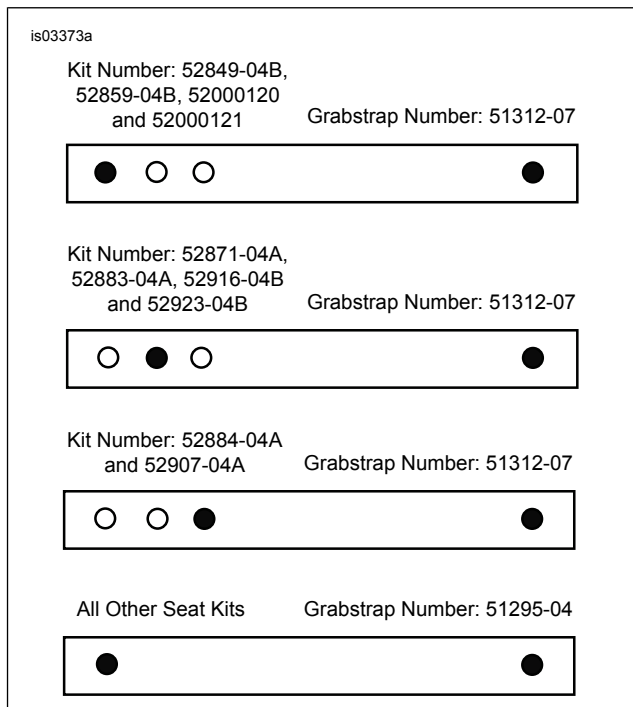
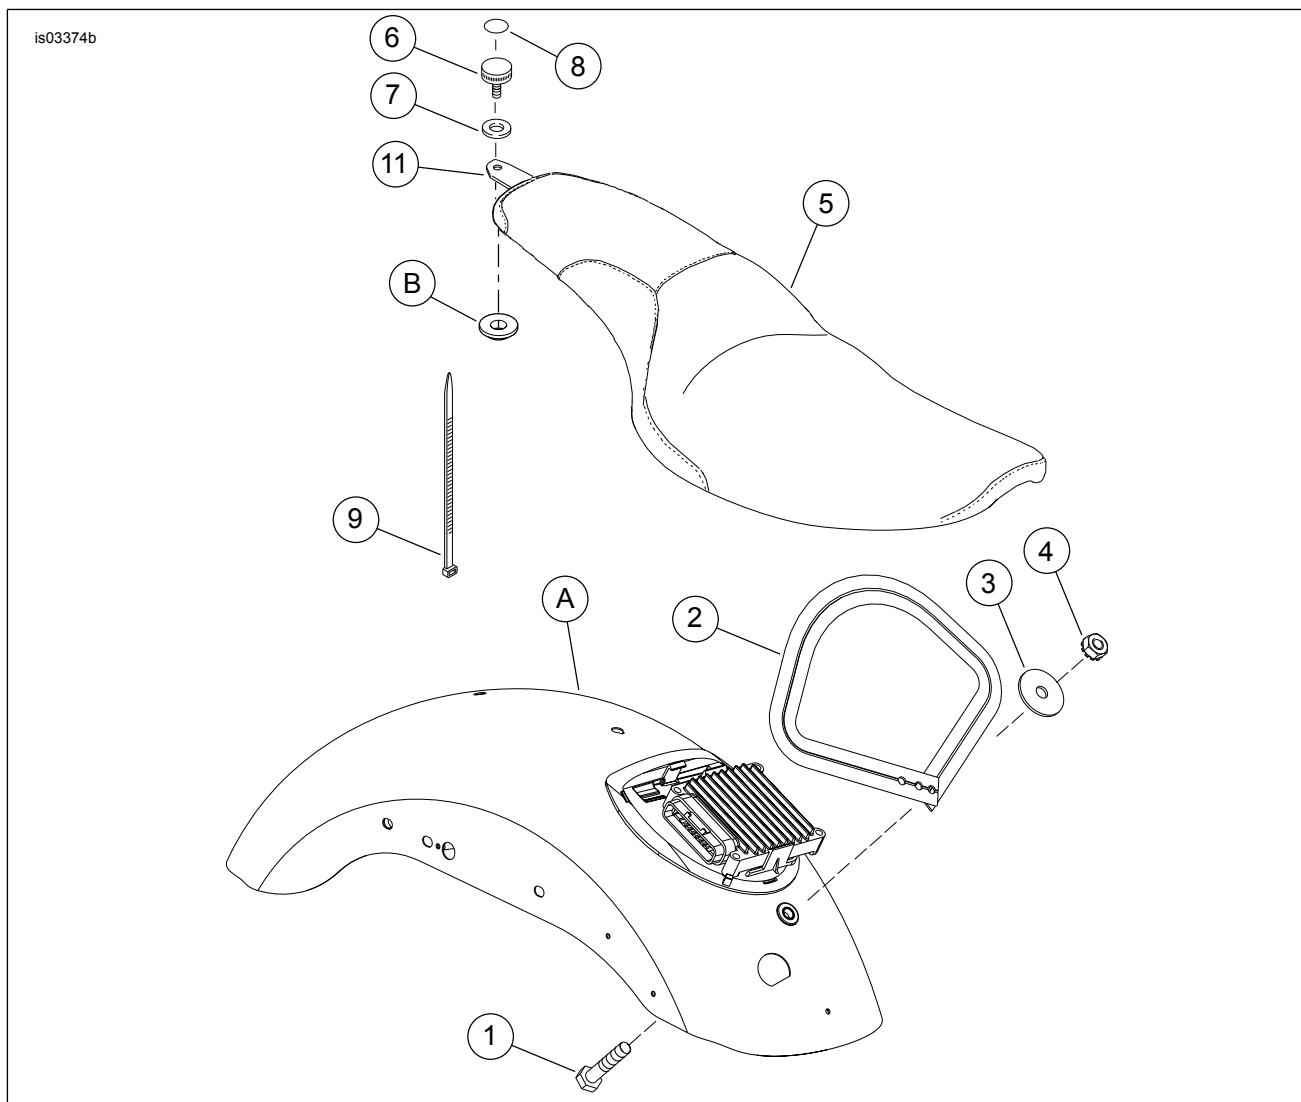

Figure 6. Grabstrap Installation
Figure 7. Service Parts: XL 2-Up Custom Seat Kits
See Figure 7 and Table 3 for a list of the service parts.
1. See Figure 7. Insert screw (1) through front fender hole from inside the fender.
3. See Figure 6. Assemble grabstrap (Figure 7, Item 2) onto screw using appropriate holes for the seat kit being installed.
4. See Figure 7. Install washer (3) and hex nut (4) onto screw (1). Tighten to 36-60 **in-lbs** (4.1-6.8 Nm).
1. See Figure 7. Slip rear section of seat (5) through grabstrap (2).